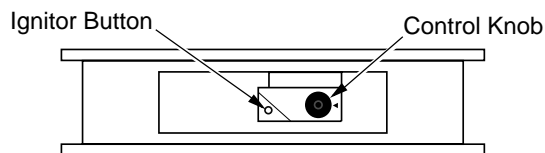

Figure 21 - Control Knob and Ignitor Button Location
4. Wait five (5) minutes to clear out any gas. Then smell for gas, including near the floor. If you smell gas, **STOP!** Follow "B" in the safety information, above. If you don't smell gas, go to the next step.
5. Turn control knob counterclockwise  to the PILOT position. Press in control knob for five (5) seconds (see Figure 21, page 14). **Note:** You may be running this heater for the first time after hooking up to gas supply. If so, the control knob may need to be pressed in for 30 seconds or more. This will allow air to bleed from the gas system.